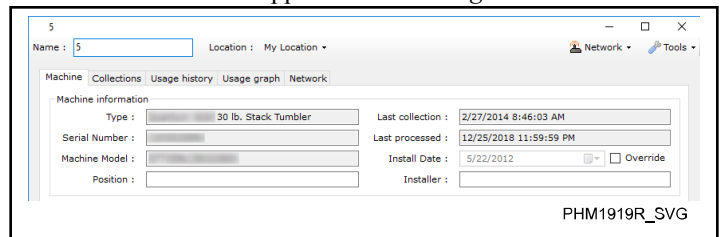

Figure 92
- a. Double-click the machine. The "Edit machine information..." window appears. Refer to *Figure 92*.